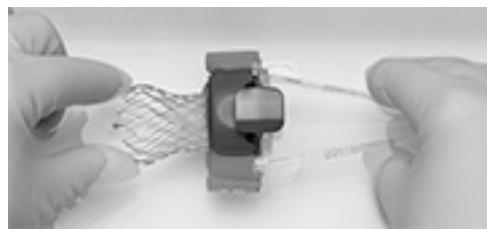

Figure 14
7. Insert the inflow portion of the bioprosthesis frame into the inflow cone. Ensure that the bioprosthesis frame paddle marked with a “C” is facing up and that the paddles are aligned with the paddle attachment pockets (Figure 14).